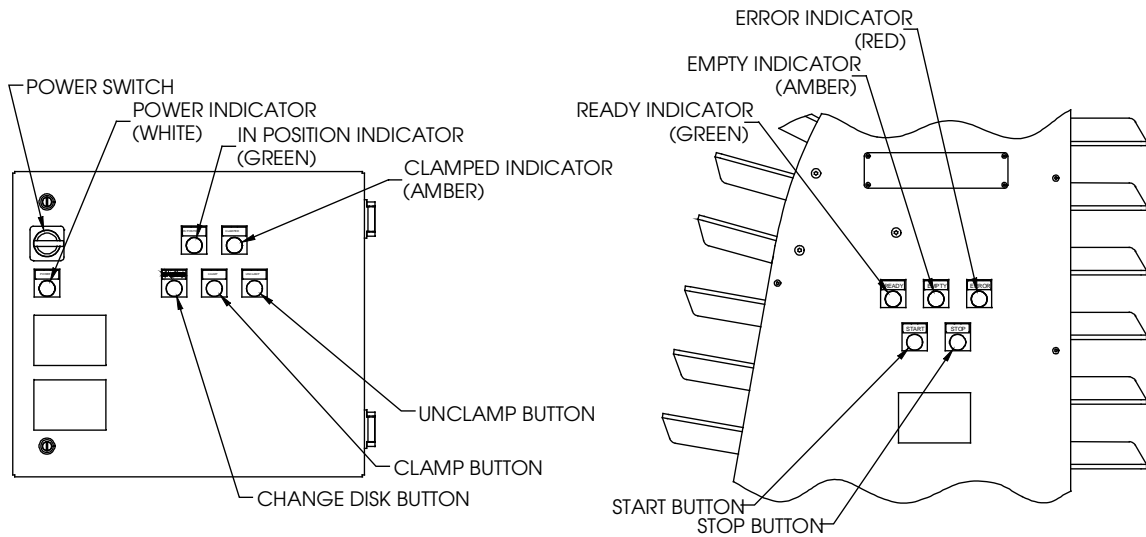

Figure 20. Disk Manager manual controls
2. With the *Power* on, jog the Tower Belt with the *Start* and *Stop* buttons (shown in Figure 20) to position a Belt Profile on the Drop Off Pulley.
The control buttons and indicators for the Disk Manager are shown in Figure 20.